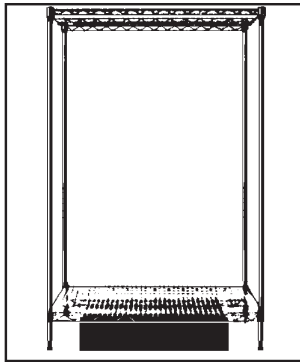

figure 3
- A. Take assembled unit and set over (4) spacer box (same box that the shelves were packed in) as shown in *figure 3*. Lift bottom shelf off split sleeves so shelf rests on top of spacer box and posts touch the floor.